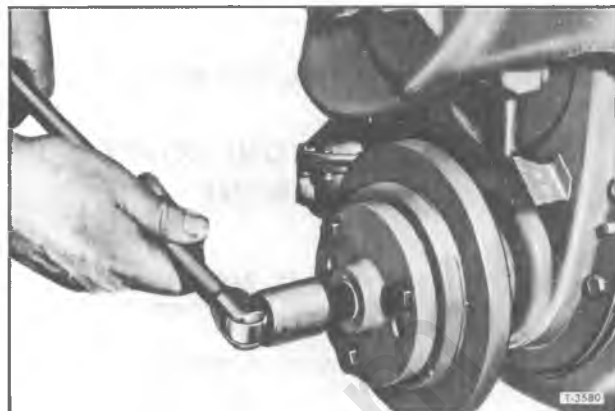

Figure 38—Removing Crankshaft Damper (Typical)
3. Assemble special Tool (fig. 38) to damper and turn the puller screw to remove damper assembly from crankshaft.